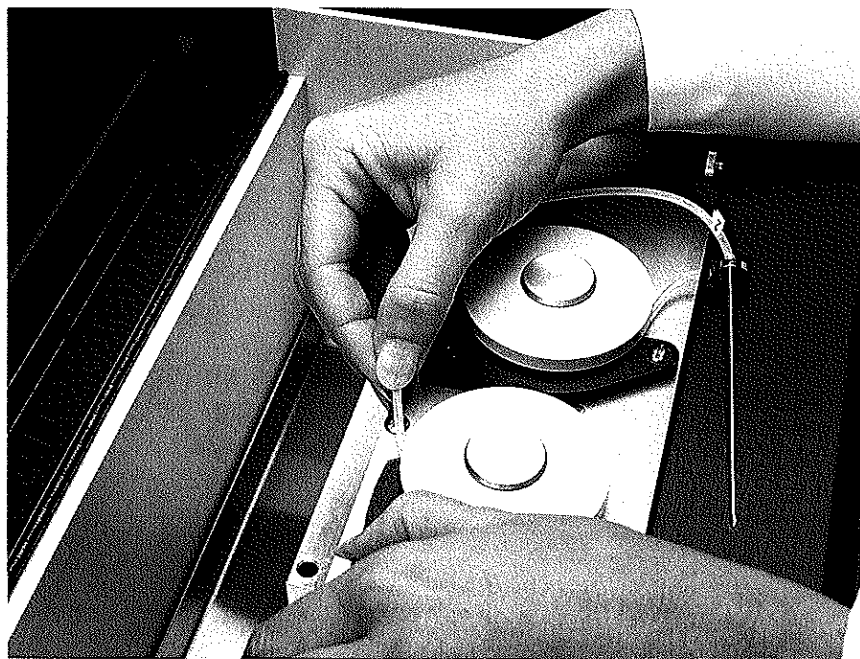

Figure 2-3
- d. Extend each new tube to its respective pump (in numerical order from right to left) and thread the end of the tubing into the hole in the pump arm. Push the thumb tab on the pump arm to the extreme left and push the tubing through (Figure 2-3) until the plastic cuff is flush against the pump arm. Release the pump arm.